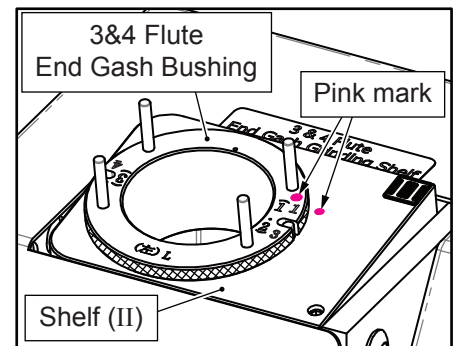

Fig. 11-2
### 2. End Gash Grinding Shelf (II) (Fig. 11-2)